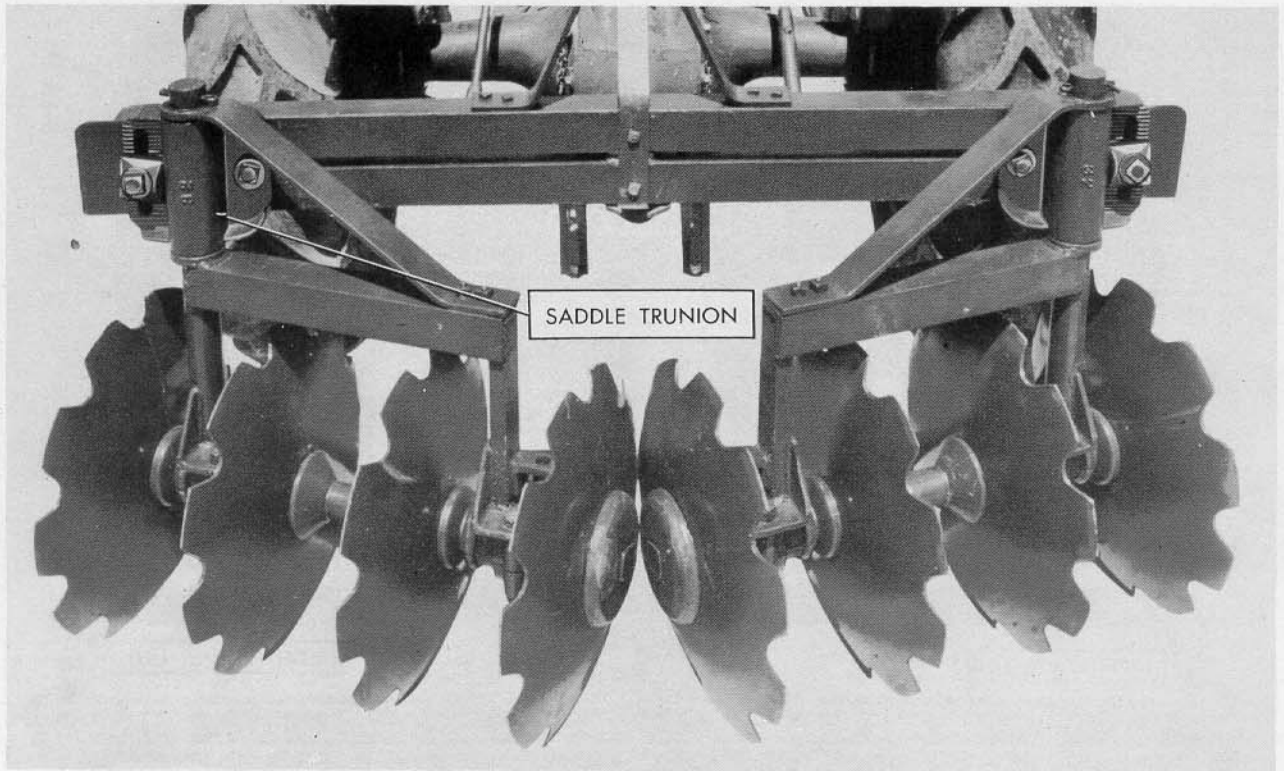

Figure 7
- b. Roll the right and left gang assemblies into their respective position as shown in Figure 7. The gang assemblies are marked right (R) and left (L) on top of the swivel shaft.